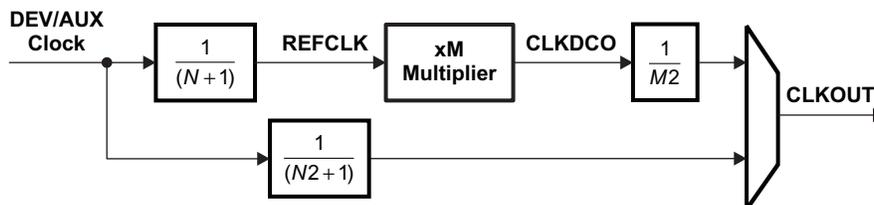
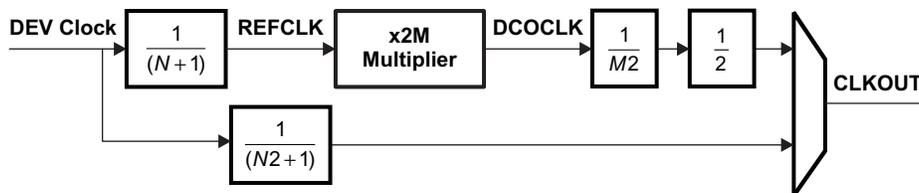

Figure 7-17. Top-Level PLL Simplified Block Diagram
Figure 7-18. PLL_ARM Simplified Block Diagram
The device contains 12 top-level PLLs, and 4 embedded PLLs (within the ARM Cortex-A8, PCIE, SATA, and CSI) that provide clocks to different parts of the system. Figure 7-17 and Figure 7-18 show simplified block diagrams of the Top-Level PLL and PLL_ARM. In addition, see the System Clocking Overview (Figure 7-6) for a high-level view of the device clock architecture including the PLL reference clock sources and connections.
(1) This parameter describes the limits on the programmable multiplier value M. The multiplication factor for the PLL_ARM is equal to 2 * M (also see Figure 7-18).
(2) The PLL Multiplier supports fractional values (up to 18-bits of fraction) except when the PLL Multiplier is < 20 OR > 2045.